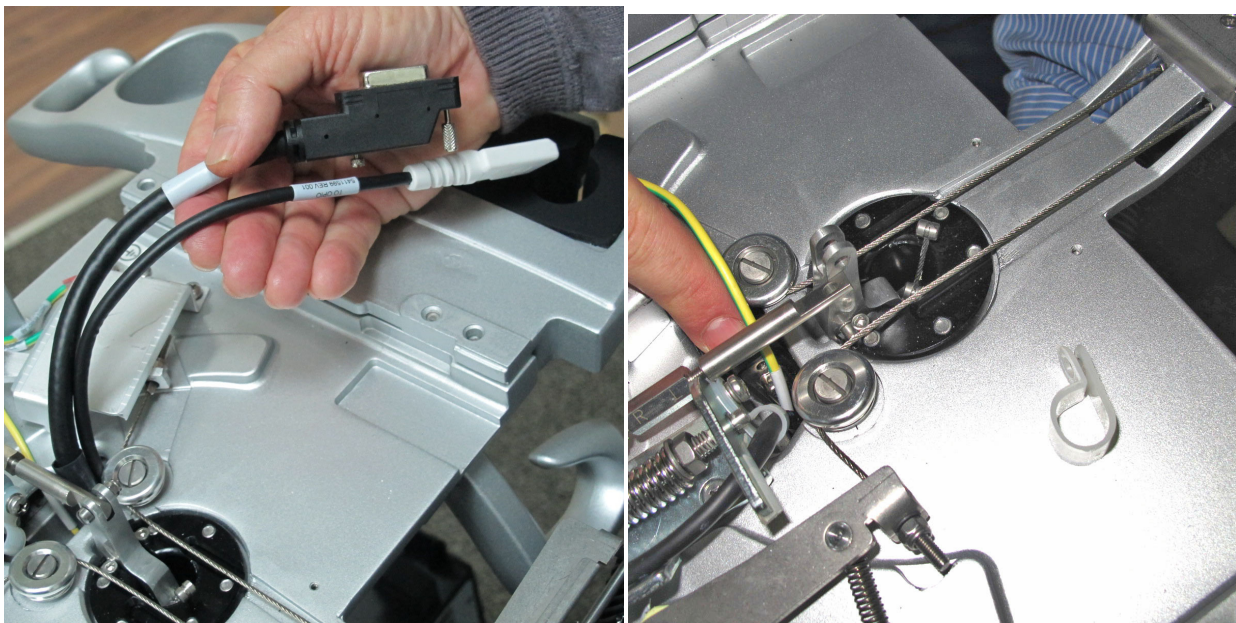

Figure 8-117 OPIO Platform Showing Cables Threaded Through Aperture
12.) Thread the cables through the OPIO platform aperture - see Figure 8-117 below.